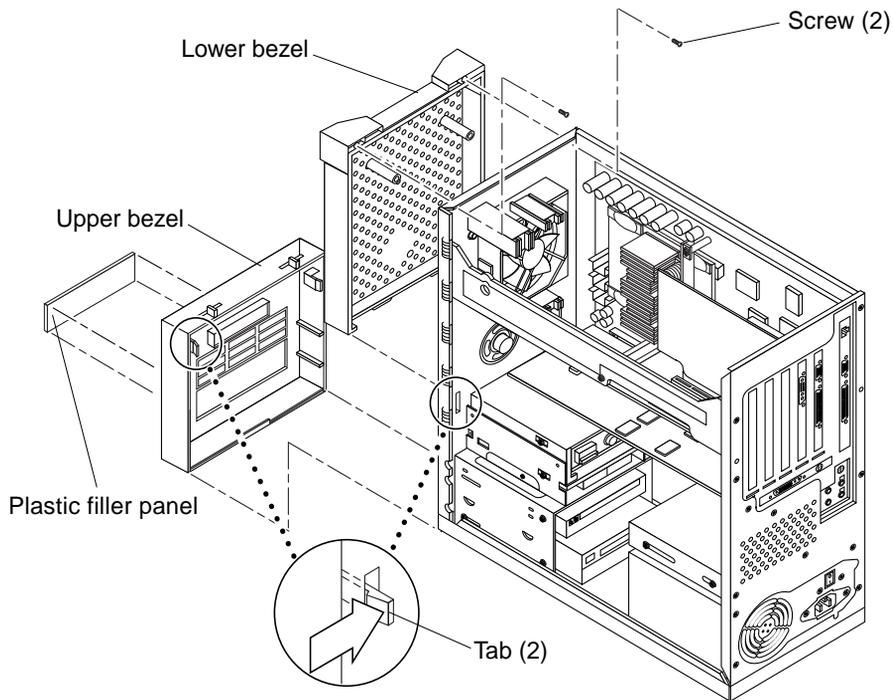
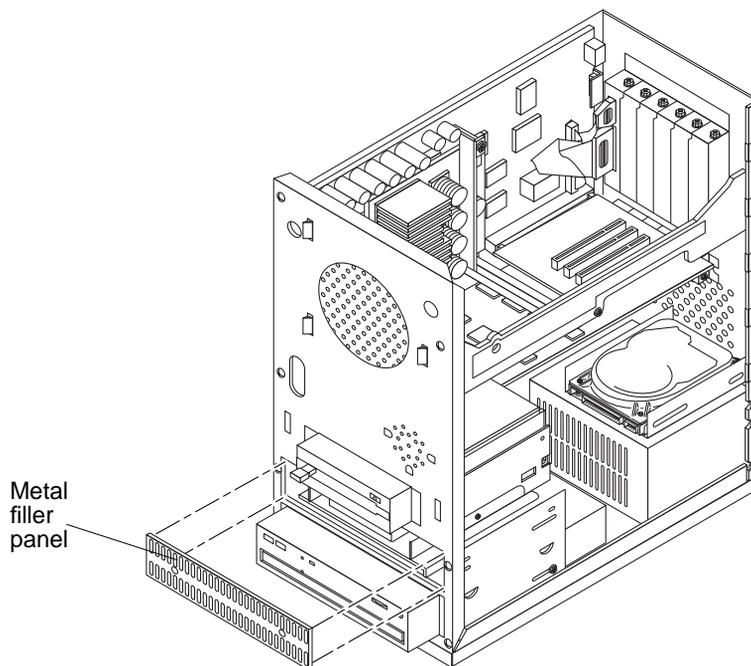

FIGURE 7-5 Removing and Replacing the Plastic Filler Panel (Ultra 10)
FIGURE 7-6 Removing the Metal Filler Panel (Ultra 10)
3. Remove a filler panel as follows (FIGURE 7-5 and FIGURE 7-6):